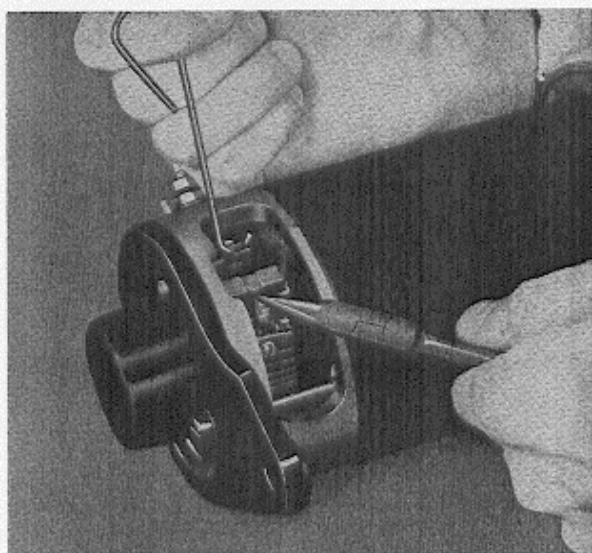

Fig. 38. Removing the brushes.
2. Disconnect the brush connecting leads. Lift up the pressure arms or springs for the brushes with a hook and pull up the brushes as shown in Fig. 38.
Take out the brushes by removing the connection at the brush holder, lifting up the brush spring and pulling out the brush with a pair of pliers as shown in Fig. 38. If the commutator is scored or unevenly worn, the dynamo must be dismantled and the commutator turned. Concerning this, see under "Dismantling, inspecting and assembling". Place in the brushes, ensuring that the correct types are used, and fit the protecting band. If there are dynamo testing devices available, it is advisable to test the dynamo before re-fitting it into the vehicle. Concerning this, see under "Testing the dynamo".